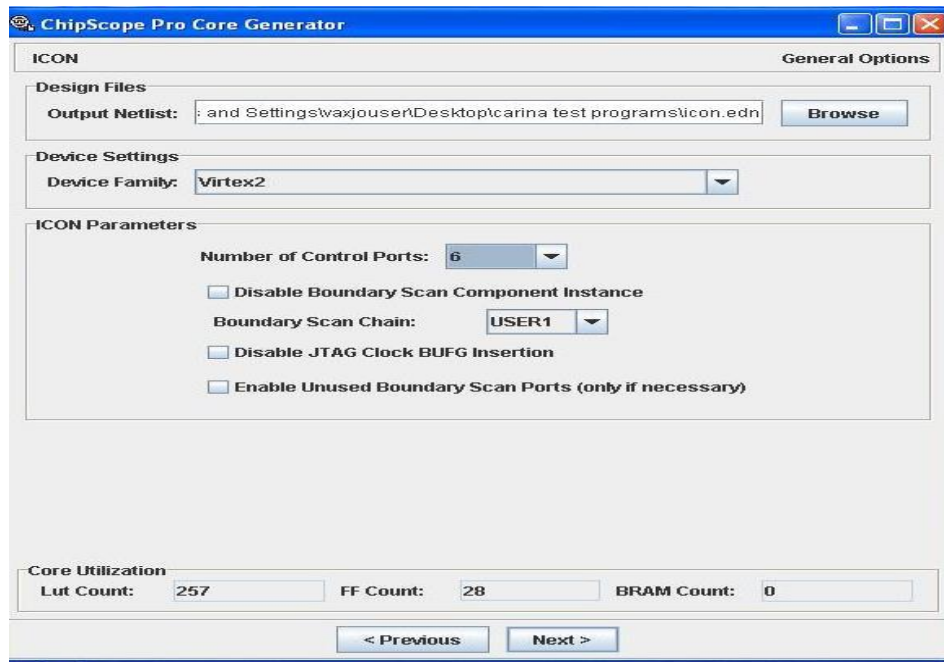

Fig 5.2: Selecting ICON Parameters
3. **Choosing ICON Parameters**: Now Select the **Number of Control Ports** to be connected with ICON as shown in Fig 5.2. It can handle upto 15ILAs, IBA/OPB, IBA/PLB or VIO. User has to choose the same number of control ports as there are other cores in the design. For Example: If the project needs two ILA modules and one VIO module then the user has to generate an ICON with three control ports.